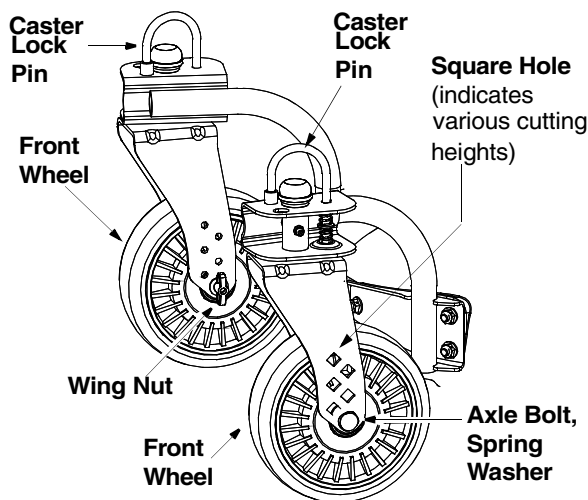

Figure 14
- Remove the wing nut from the axle bolt. See Figure 14. Slide the axle bolt and spring washer from the assembly and select a cutting height.
The casters can be locked in a straight ahead position or position to swivel freely. See Figure 14.